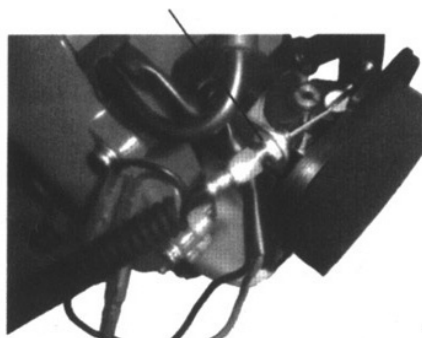

Figure 9
1. Loosen the throttle cable nut at fan cover as shown in Figure 9.